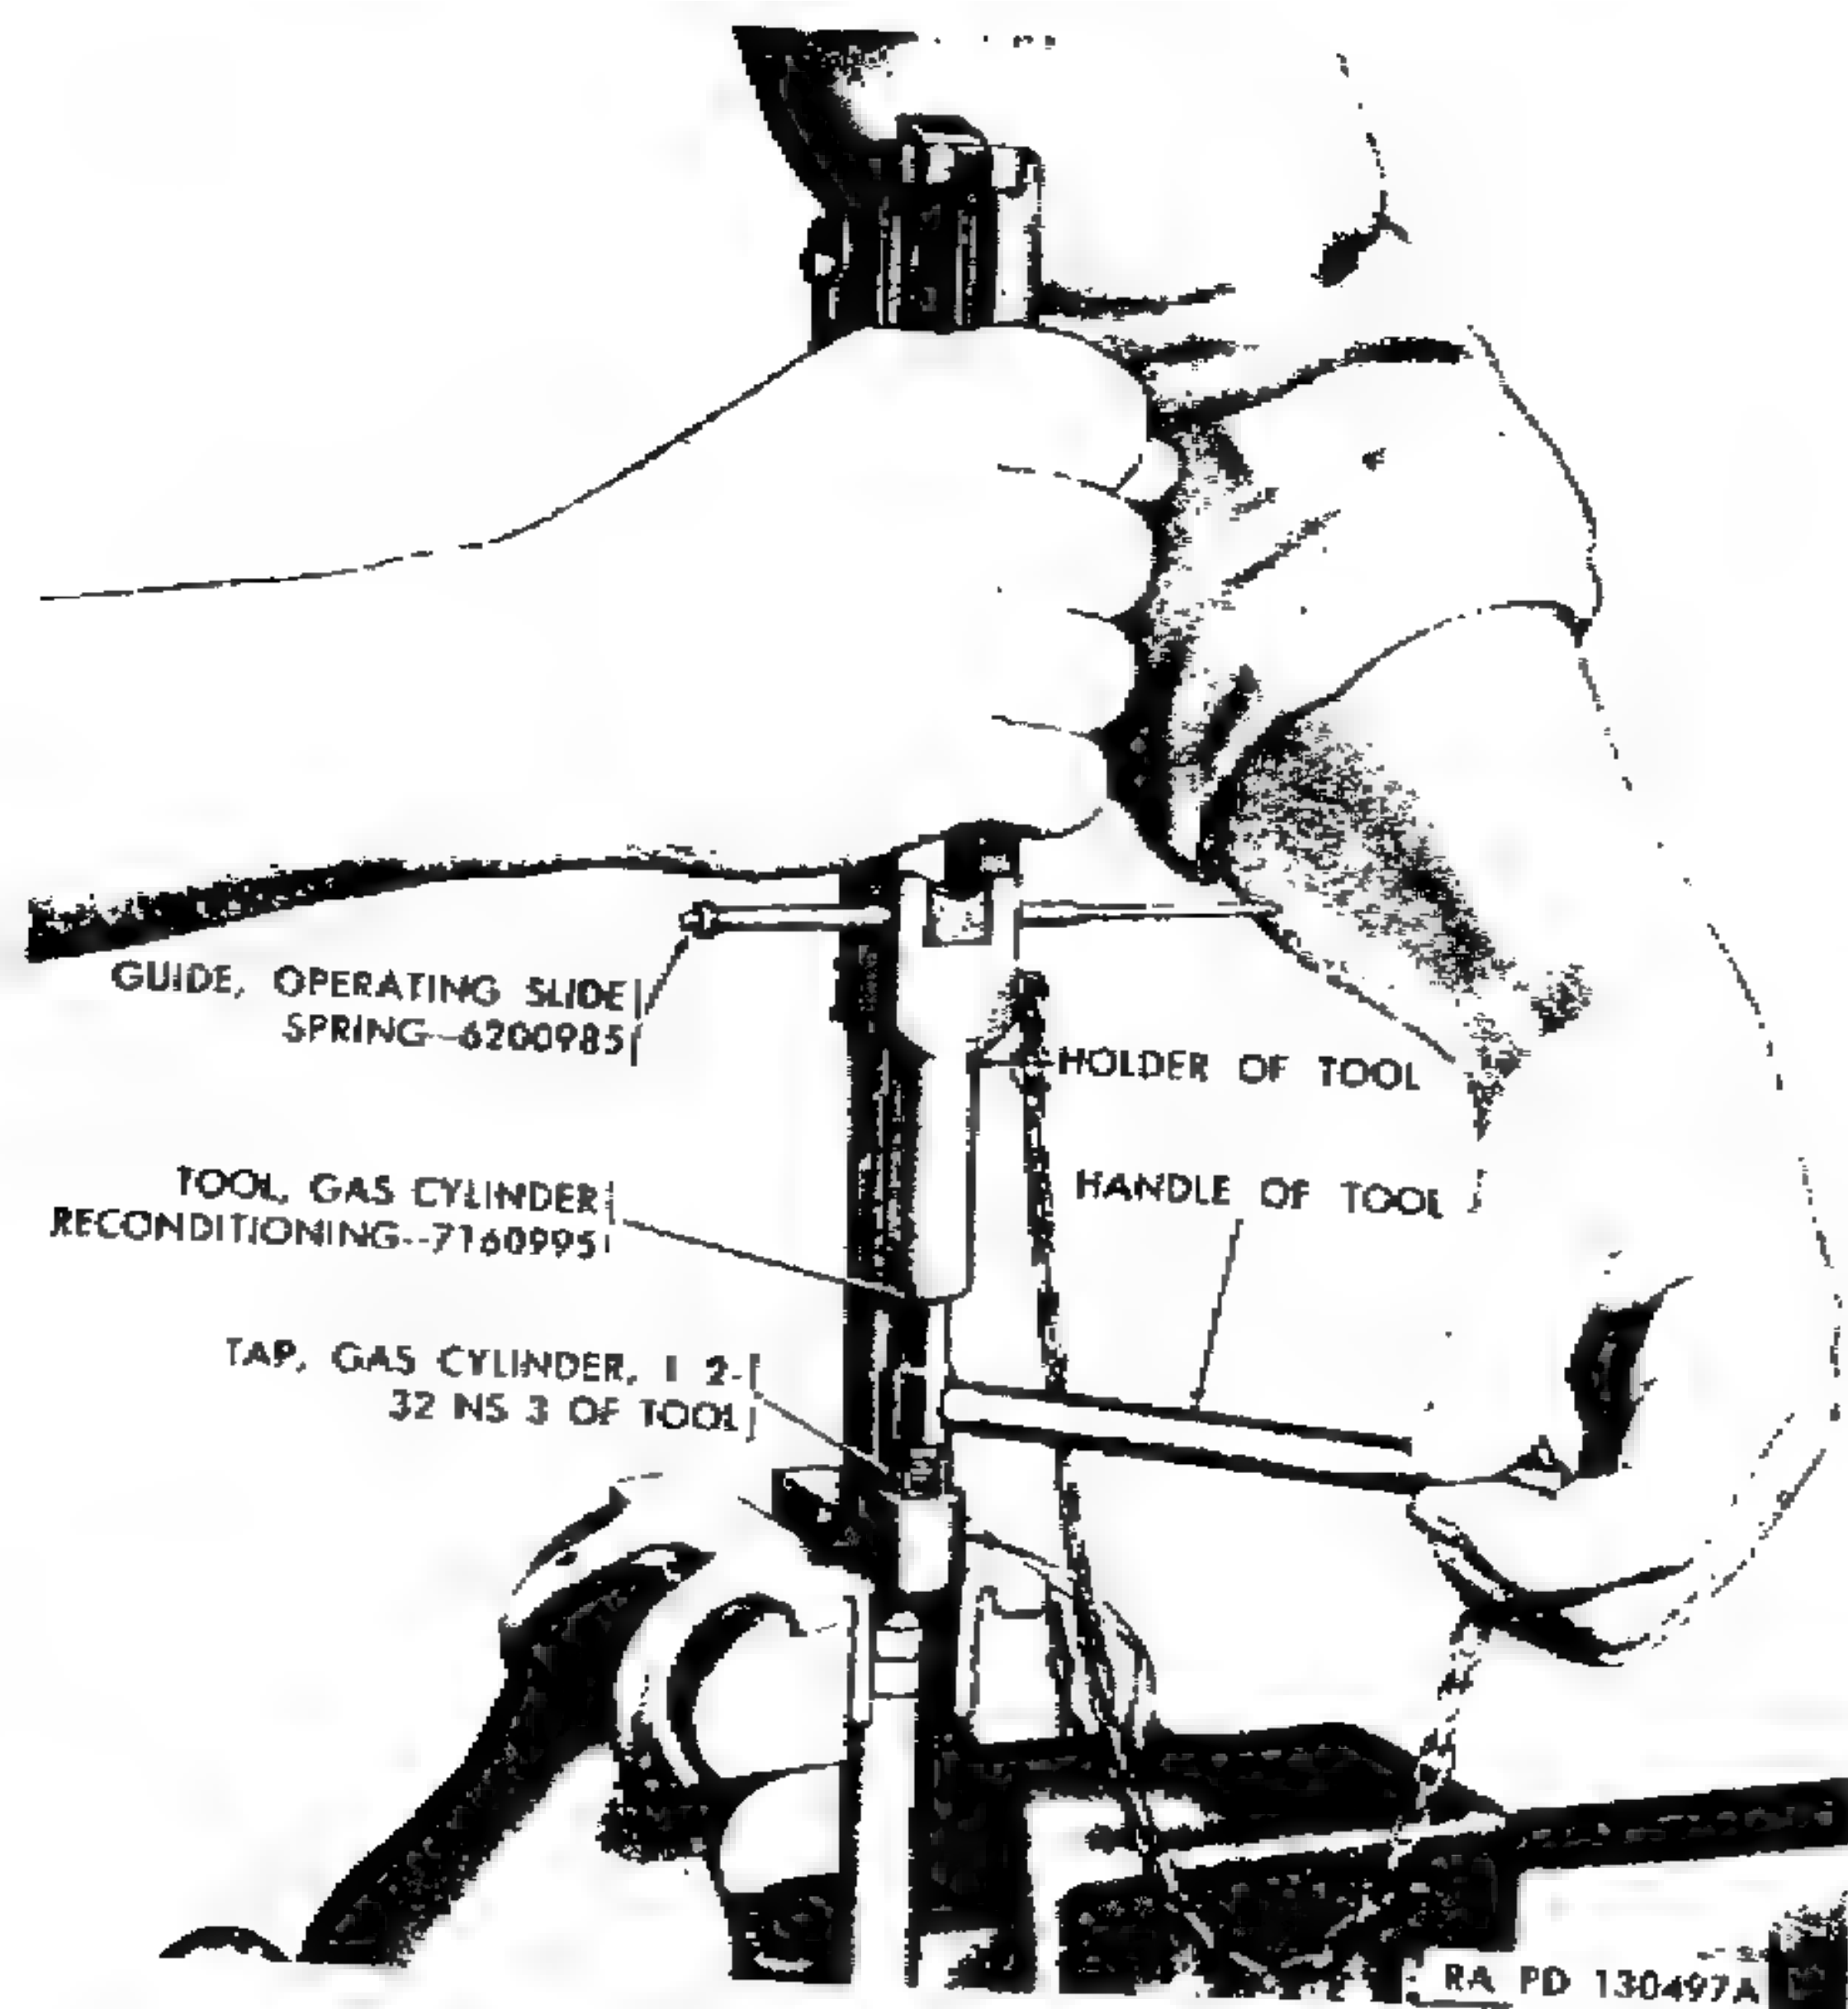

Figure 84. Chasing gas cylinder thread.
- (1) Check to assure that barrel has been staked at rear end of front sight.
- (2) Check to assure that staking the front sight keyway and the application of the proofmark have not distorted the bore.
- (3) Check front band screw to assure that head is in good condition and that it is staked or spun over sufficiently to prevent loss of screw.
- (4) Check to assure that the ring portion of the front band surrounds the barrel with spring tension and check the swivel to assure that it swivels properly.
- (5) Check to assure that the operating slide can be drawn all the way back to its stop against the receiver without binding.
a. Chasing Gas Cylinder Thread. Chase threads of the gas cylinder, using gas cylinder tap member of tool 7160995 (fig. 84). Dip tap in a cutting oil and start tap carefully in gas cylinder. Cut threads a little at a time, using a forward and backward movement. Exercise care to stop tap as soon as it touches bottom to prevent damaging tap or cylinder. Remove tap and thoroughly clean chamber.
- (1) *Carbon.* Because of the rearward position of the gas port and high gas pressure encountered there, excessive carbonization of cylinder and piston is unlikely. However, these parts should be cleaned at regular intervals, or when fouling or sticking of piston is evident; the gas port in the barrel should be inspected and cleaned if necessary. Remove piston nut and piston from gas cylinder and scrape excess carbon off with flat blade. Take care not to scratch parts unnecessarily. When carbon has been removed, clean inside of cylinder and piston, oil very lightly and replace. Clean gas port with an 0.070-inch or smaller drill inserted by hand, or with piece of wire or similar instrument. Be sure to stake piston nut lightly in place when assembling.
b. *Gas Cylinder Piston and Nut.* Insert gas cylinder piston into cylinder and screw cylinder piston nut into the threads using gas cylinder reconditioning tool 7160995 (fig. 84) (with component wrench). Make certain to stake the cylinder lightly into the nut, in one of the three places provided, or the nut may work loose during the firing of the carbine. After the piston and nut are assembled in the gas cylinder, check to assure that there is no binding (par. 57c).